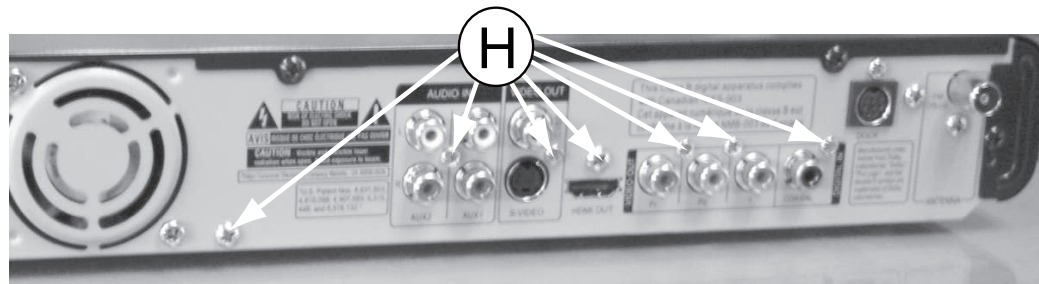

Figure 11
- 2) Loosen 7 screws "H" at the back panel as shown in figure 11